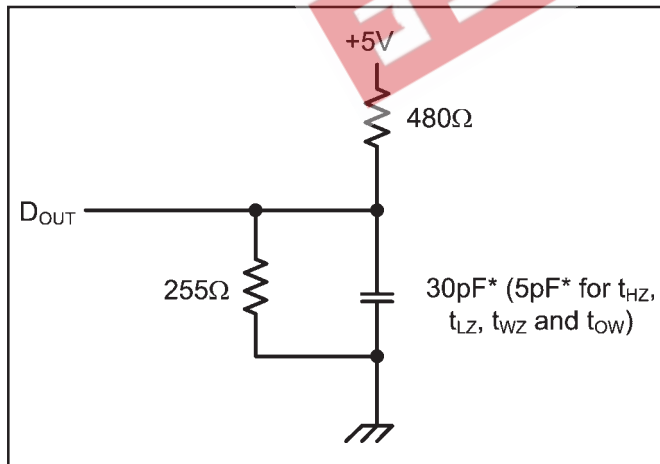

Figure 1. Output Load
7. Transition is measured  $\pm 200\text{mV}$  from steady state voltage prior to change with specified loading in Figure 1. This parameter is sampled and not 100% tested.
- 13. Transition is measured  $\pm 200\text{mV}$  from steady state voltage prior to change with specified loading in Figure 1. This parameter is sampled and not 100% tested.
Output Load	See Figures 1 and 2